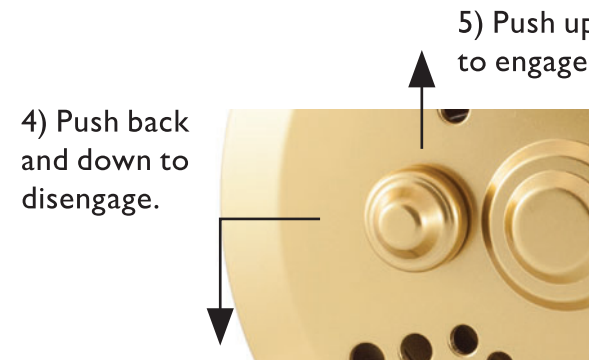

Figure 2 - Clicker Button
- Disengage the clicker, as illustrated in Figure 2.
- Do not overtighten the spindle screw (2). Tighten the screw just until it meets resistance.